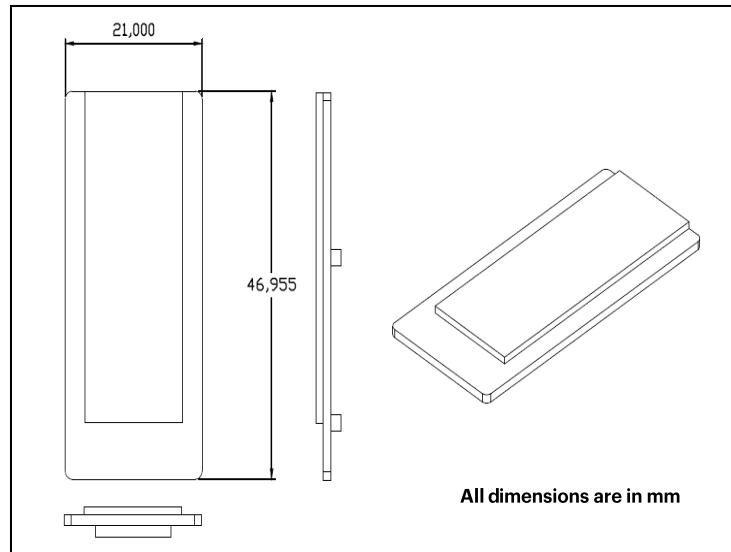

Figure 19. Mechanical Dimensions Interposer Board
*Figure 19* shows the mechanical dimensions of the ARTIK 053 Interposer Board.